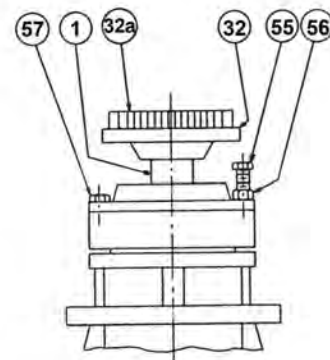

Fig. 1
- 2. Impeller adjustment-standard pump; for high speed pump impeller adjustment, contact factory. (**Fig.1**):